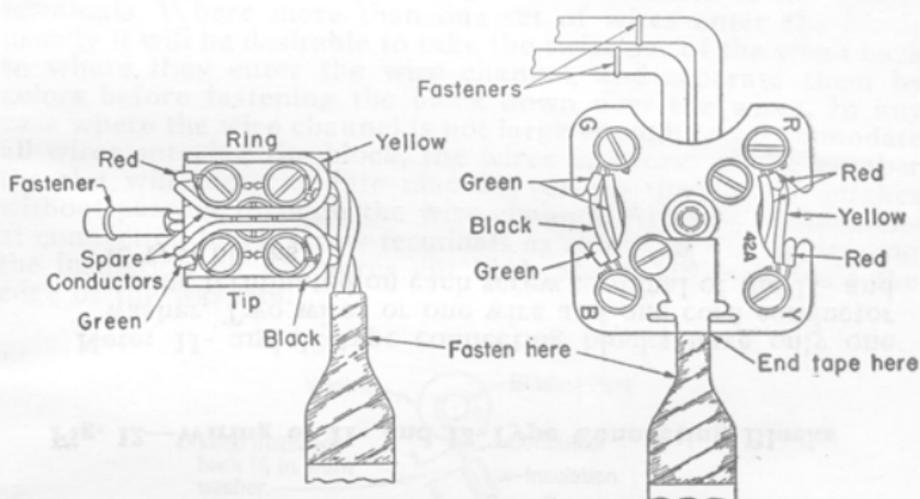

Fig. 13—Terminating Flat Rubber Cordage on 11- and 42-Type Blocks
5.08 Terminate flat rubber cordage on connecting blocks as shown in Fig. 13.